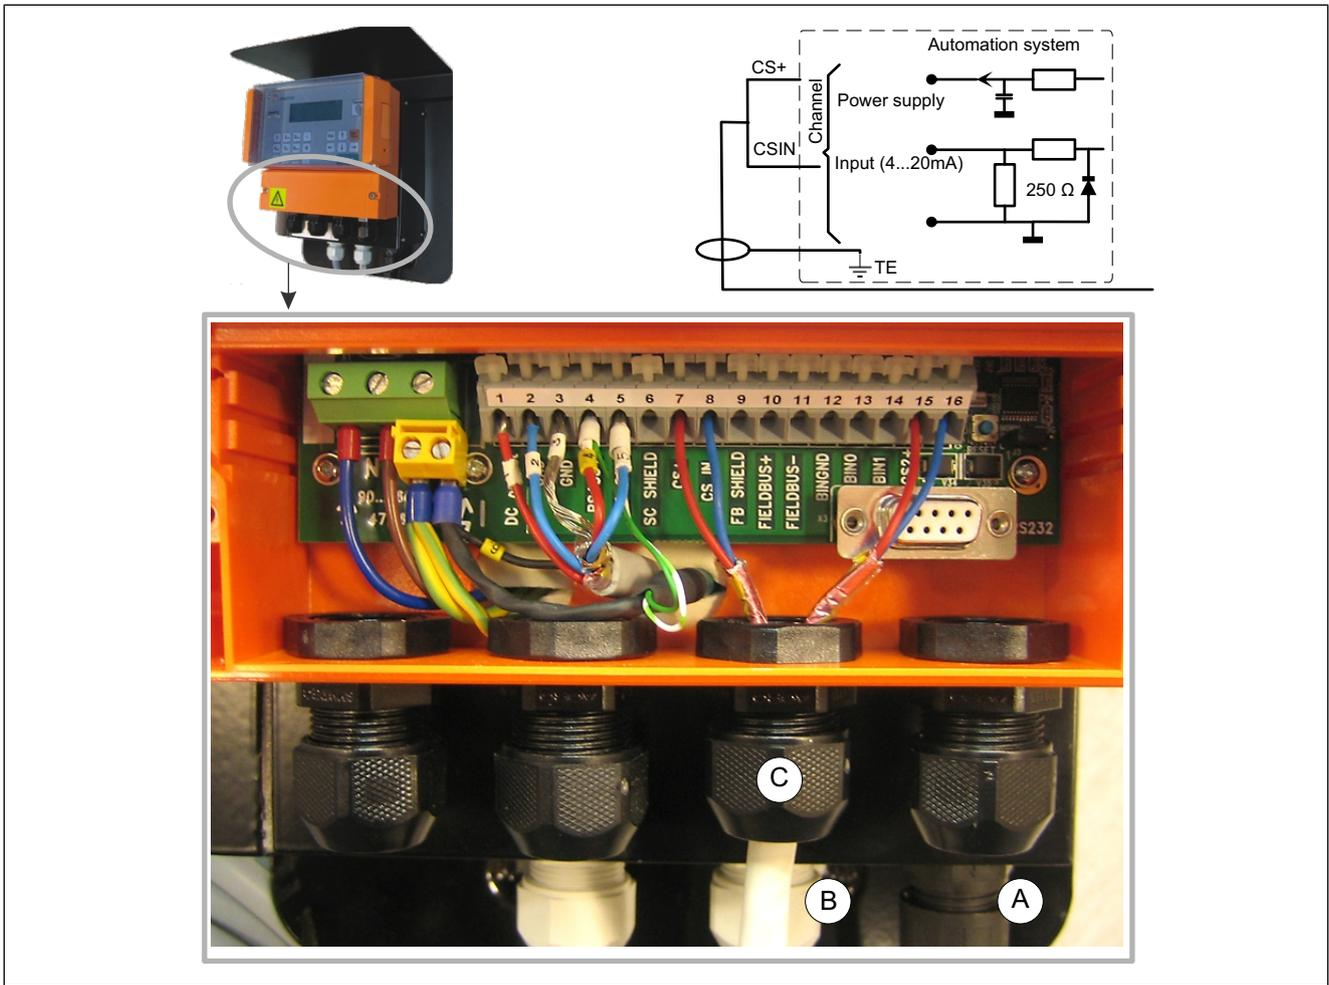

Fig. 6. Connections of TCU, MD model: A. power, B. transmitter, C. analog signal 4 - 20 mA.
2. Connect the sensor cable (Fig. 6).